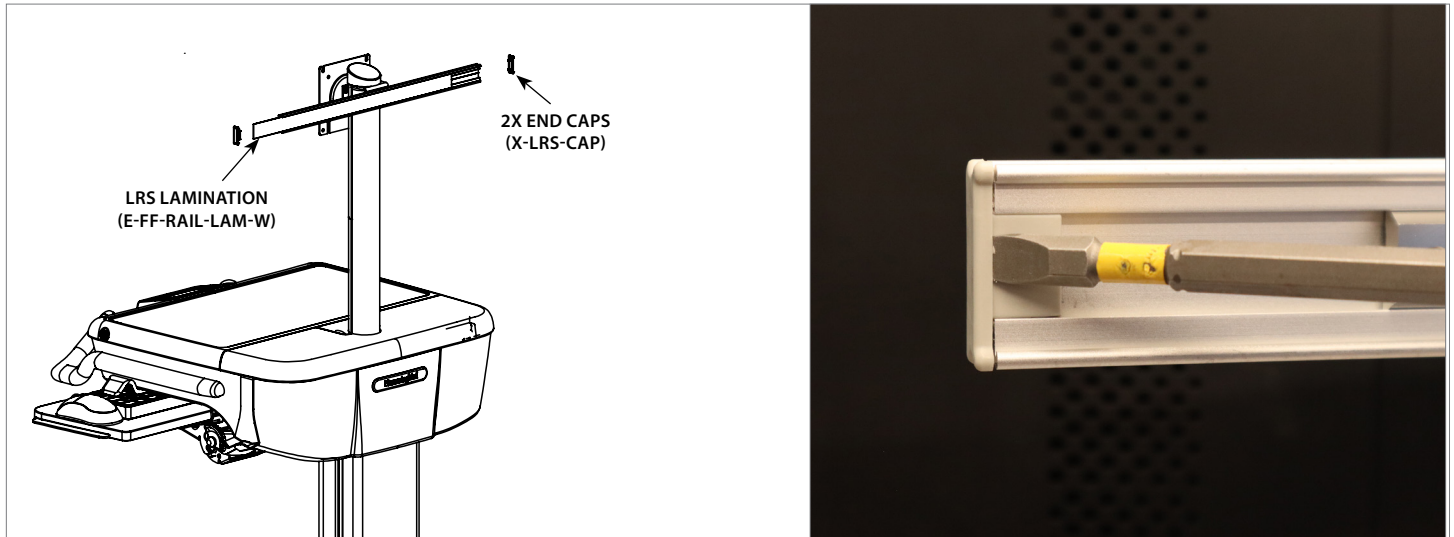

Figure 9
3. Remove the 2x **END CAPS (X-LRS-CAP)** & **LRS LAMINATION (E-FF-RAIL-LAM-W)** from the **PERCH RAIL (HMA-PR-A-18)** using a flat head screwdriver (**Figure 9**) and discard the 2x **END CAPS (X-LRS-CAP)**.